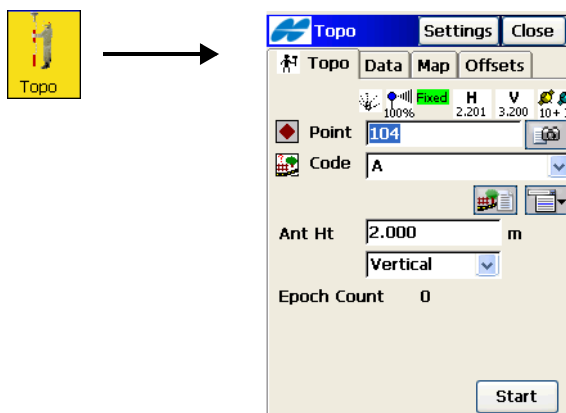
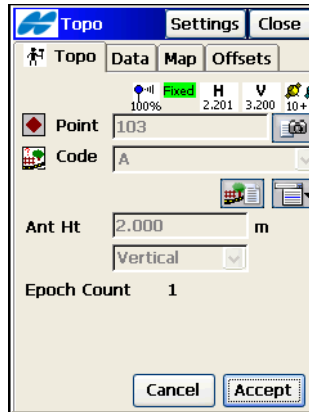

Figure 9-2. Topo Points Survey
Figure 9-4. Topo – Accept
The **Topo** screen (Figure 9-2) records stop and go survey.
- *Notes* – opens the **Notes** screen (Figure 9-4 on page 9-5).
The *Topo* tab on the Topo screen (Figure 9-4 on page 9-5) contains the initial data for the survey and displays the progress of the survey (Figure 9-2 on page 9-2). The upper-right corner of the screen displays the status of information on the **Status** screen. For details, see “GPS+ Survey Status” on page 8-12.
- **Start** – starts the survey process. After pressing, the button changes its name to **Accept** and a new button **Cancel** appears along with the counter of the epochs collected (Figure 9-4).